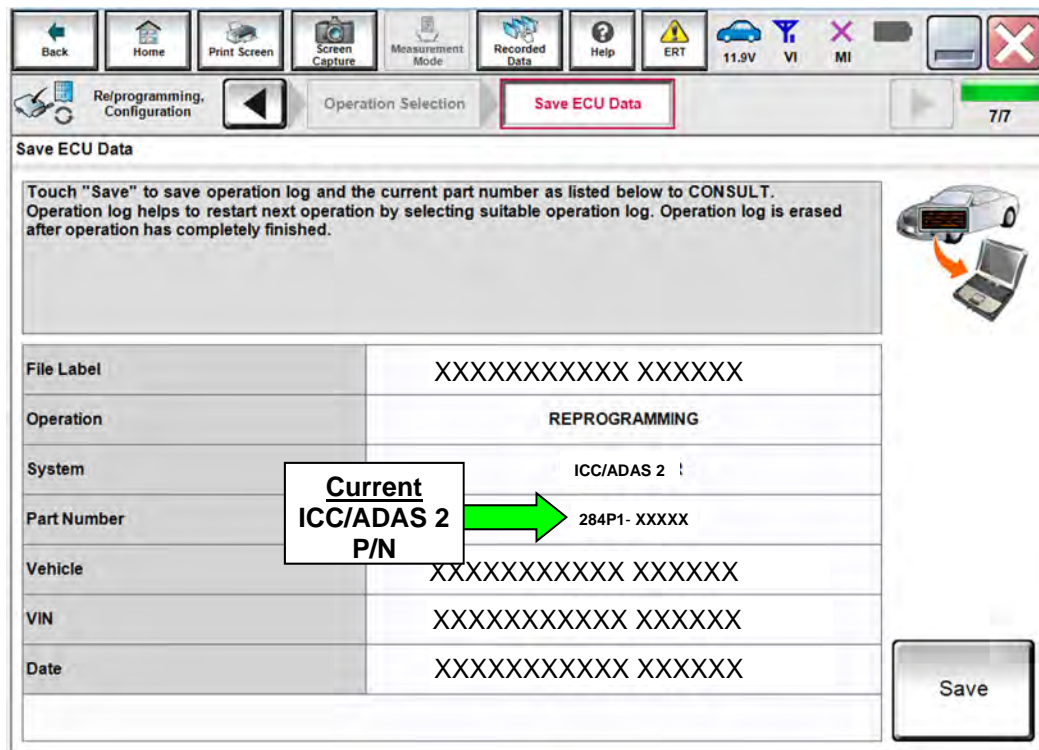

Figure 10
20. When you get to the screen shown in Figure 10, confirm that a reprogram is available as follows.